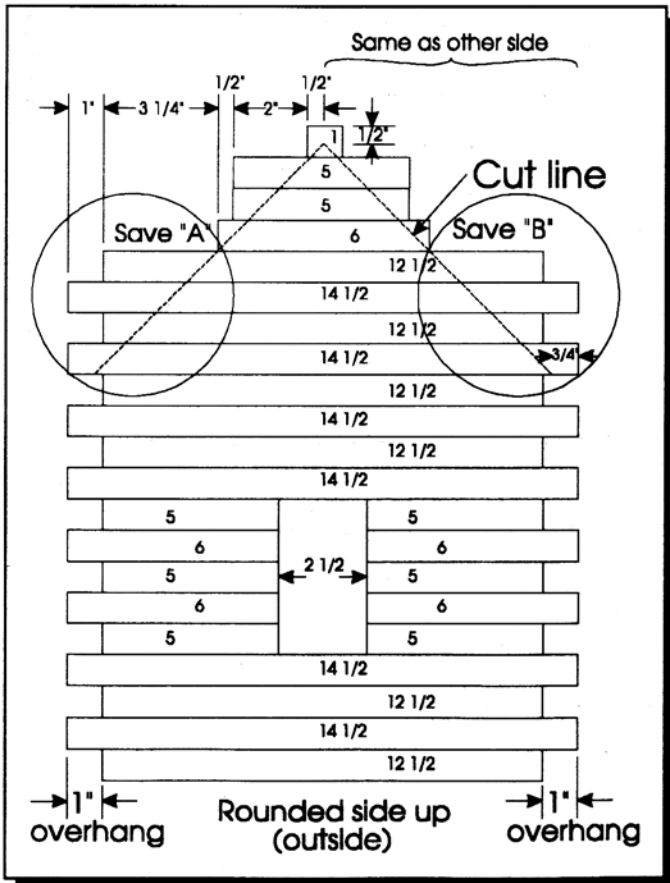

Figure 4- Right Side Wall
- Cut the tops of the walls to form the gables. Save the lower four-piece sections of the waste, these will be the Dormer Side Walls. There will be four of these after both side walls are cut (A,B,C and D). See Figure 4.